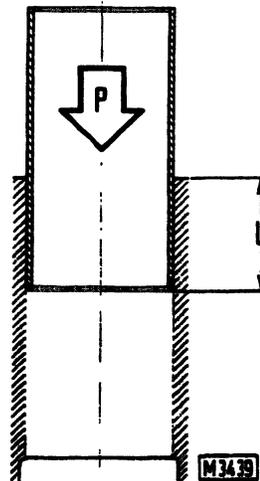

Fig. 8 - Installing cylinder sleeves in the block.
- after driving in the sleeve 70 ± 90 mm (2.75 ± 3.54 in) check load to be ≥ 1400 daN (3146 lb.) (fig. 8);